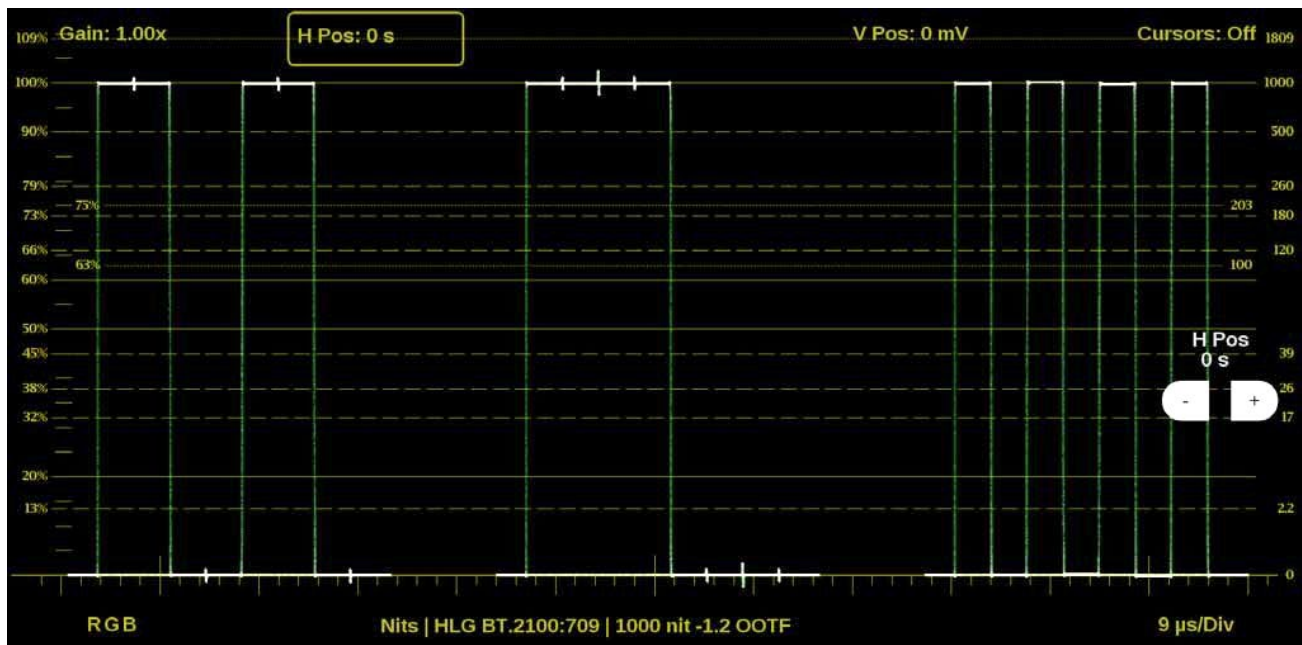

Figure 102: Waveform on-screen tools – horizontal position
1. Select the **H Pos** button to allow incremental adjustment of the horizontal trace. (See Figure 102.)